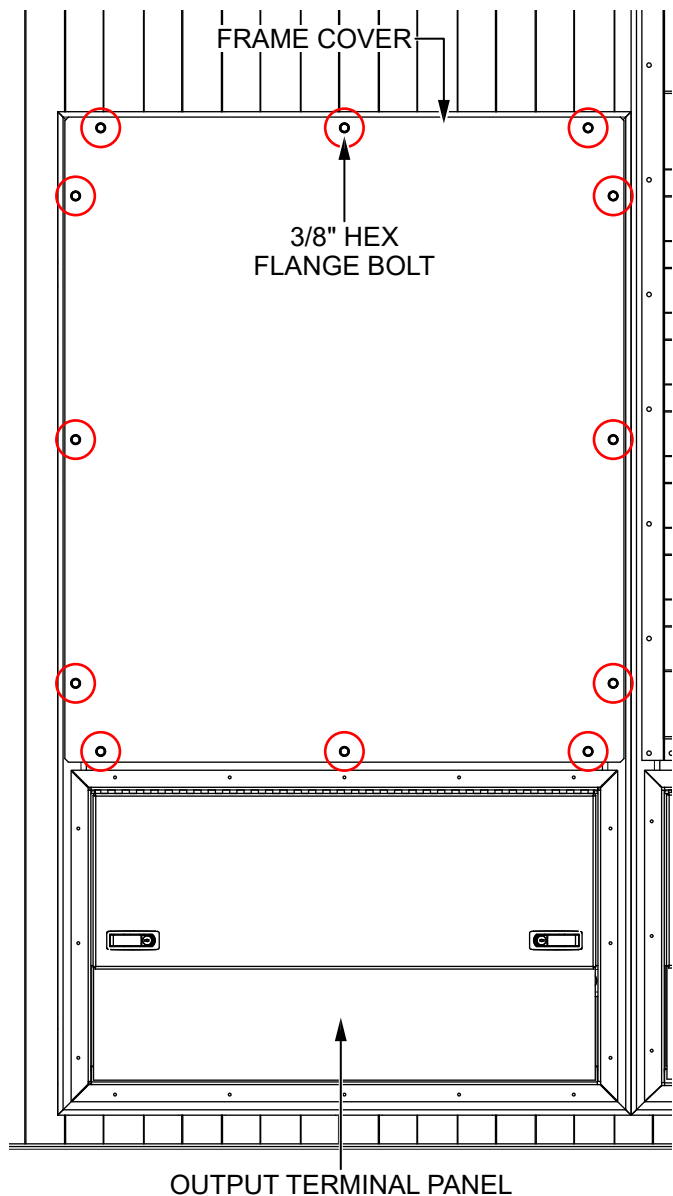

Figure 10. Remove Frame Cover
1. Locate the **frame cover** (Figure 10) just above the **output terminal panel**. Remove the **3/8-inch hex flange bolts** securing the frame cover to the container frame. Remove the frame cover and set it aside. Retain all of the hardware for later.